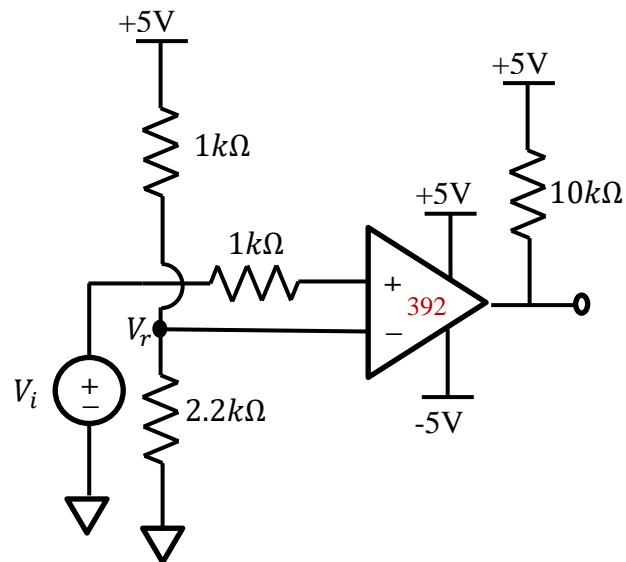

Figure 4.7 – Voltage comparator.
- B. For the circuit in Figure 4.7, calculate  $V_r$ . Calculate the threshold input voltage,  $V_i$ , that will change the output of the comparator from high to low. Show all calculations and explain your work.
- C. Model the circuit in Figure 4.7 in SPICE for  $V_i = 2V$  and  $V_i = 4V$ . Print out a copy of both schematics with voltages displayed to hand in. Your SPICE simulation and calculations should match.